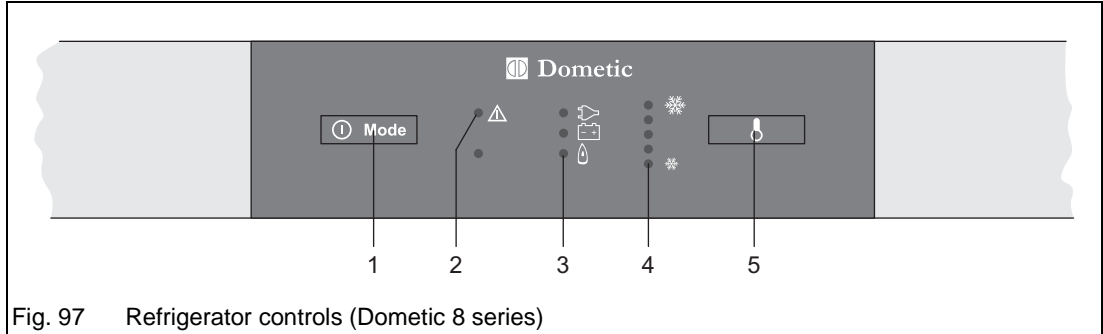
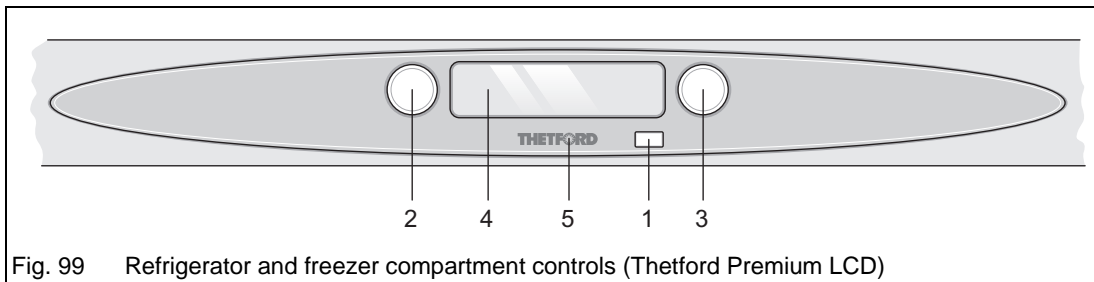

Fig. 97 Refrigerator controls (Dometic 8 series)
Fig. 99 Refrigerator and freezer compartment controls (Thetford Premium LCD)
- ➔ On refrigerators with manual power selection (MES), press the power selector switch (Fig. 97/1) resp. (Fig. 99/ 2) so often until "Gas mode" is selected. Ignition is then automatic.